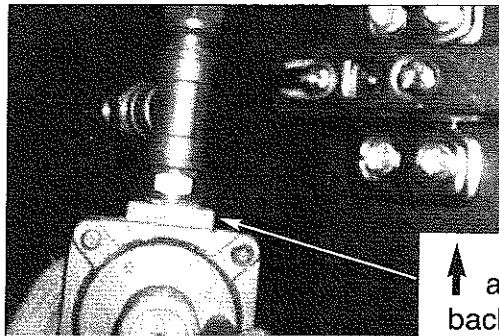

Fig 20
28. Attach the NG regulator set (PF30LP) to the manifold as shown. (See Fig. 20)